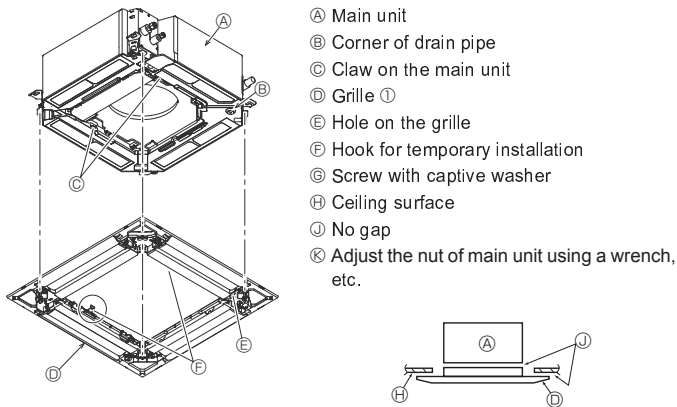

Fig. 6-6
6.4.2. Temporary installation of the grille (Fig. 6-6)
- By tightening the pre-installed screws, fix the grille onto the main unit. (Fig. 6-6)
Make sure there is no gap between the main unit and the grille or between the grille and the ceiling surface. (Fig. 6-6)